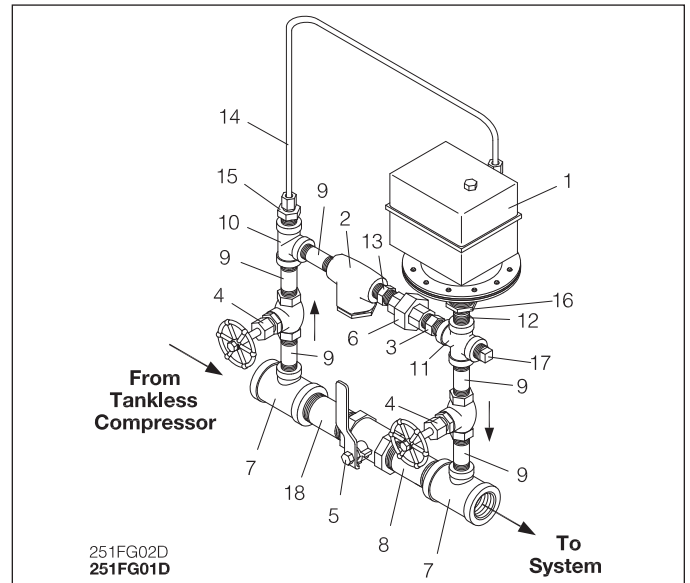

Figure 2
• **Models B-1 Pressure Maintenance Device (Refer to Figure 2)**
Basic functionality of components (refer to Figure 2): A drop in the sprinkler system's air pressure causes the contacts of the pressure switch (Item 1) to close, thereby activating the air compressor. When the pre-adjusted level of air pressure is restored, the pressure switch's contacts re-open, thereby deactivating the air compressor. The pressure switch (Item 1) is also equipped with an unloader valve that automatically bleeds off the air compressor's outlet pressure each time the contacts of the pressure switch open. This protects the air compressor's motor from overloading during start-up. Like the Model A-2 PMD, the Model B-1 has a strainer (Item 2) for contamination control and a check valve (Item 3) to prevent reverse water flow. The ball valve (Item 5) and globe valves (Item 4) are also identical in configuration and function as with the Model A-2 PMD. Likewise, the ball valve (Item 5) must be closed and the globe valves (Item 4) must be open for proper automatic operation.
- a. Make sure the air flow through the Device is as shown by the arrows in Figures 2, 5-7 and 10.